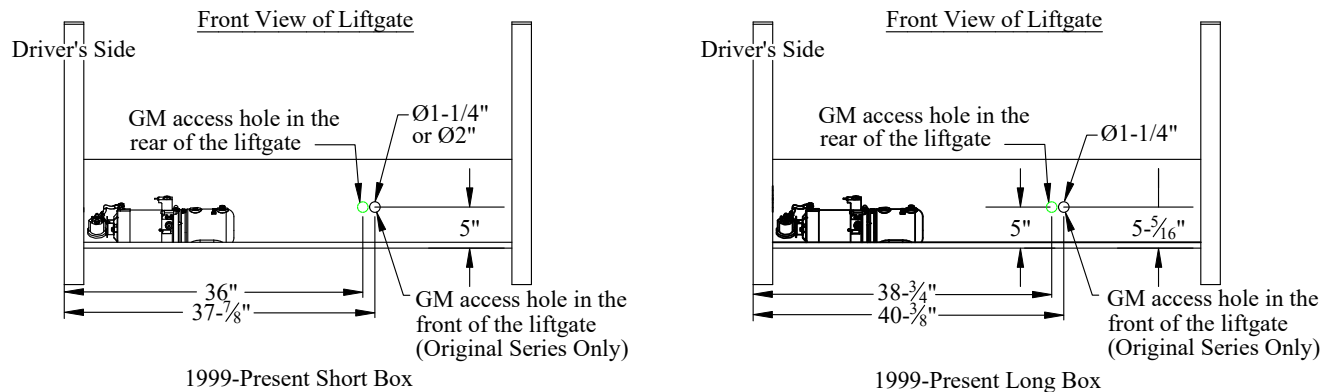

Figure 13: Spare tire access holes.
2. Remove and Discard the black plastic plug(s) from the mainframe at the location shown (Figure 13).